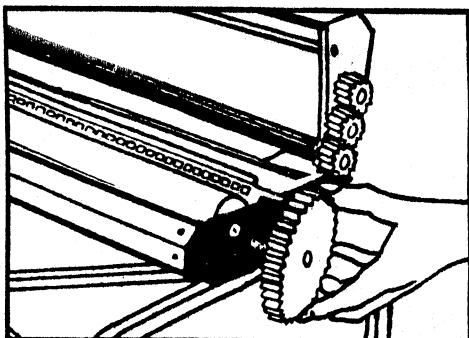
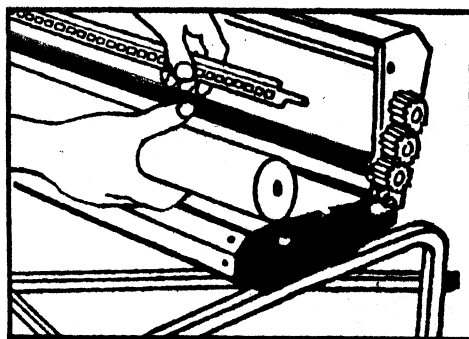

Figure 14
Figure 15
3. To clean Application Roller, remove the Large Gear (PM-0210) on the right side of the machine by turning counter clockwise (Figure 14). Lift right side of roller first and pull out (Figure 15). Wash with water and sponge.